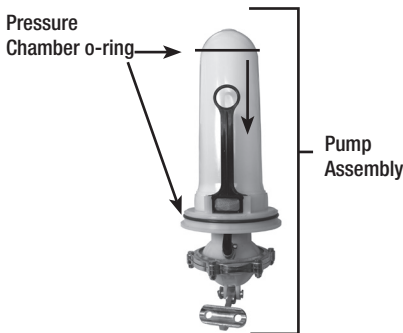

Figure 3b
8. The pressure chamber o-ring can also be replaced. DO NOT stretch the o-ring over the bottom flange. Assemble the o-ring over the top of the chamber. Apply petroleum jelly to the o-ring before reinstalling pump assembly into the tank (fig. 3b).